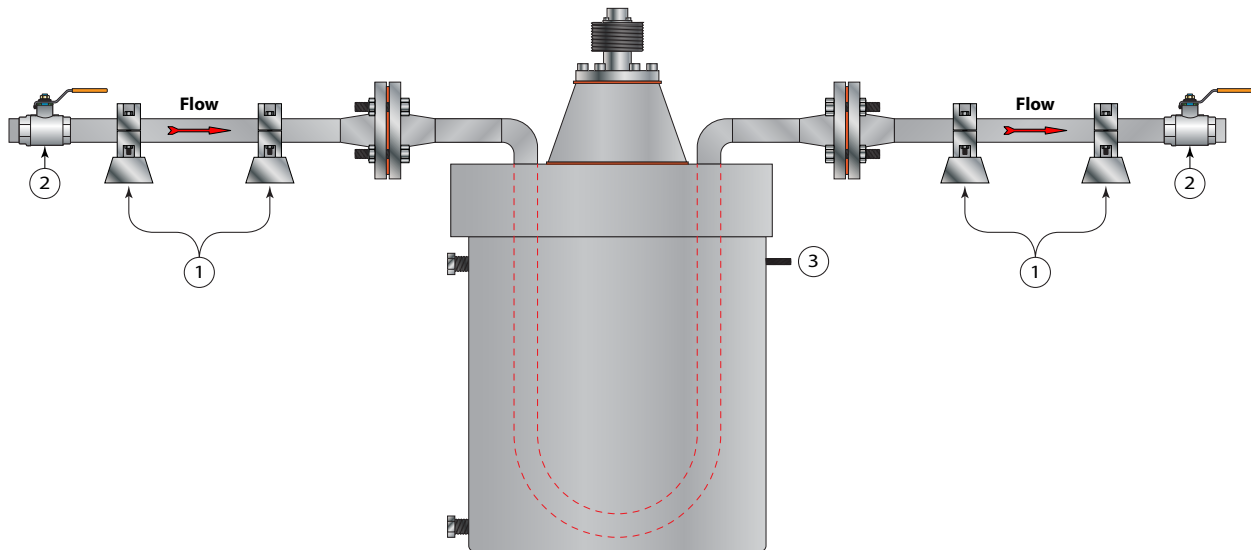
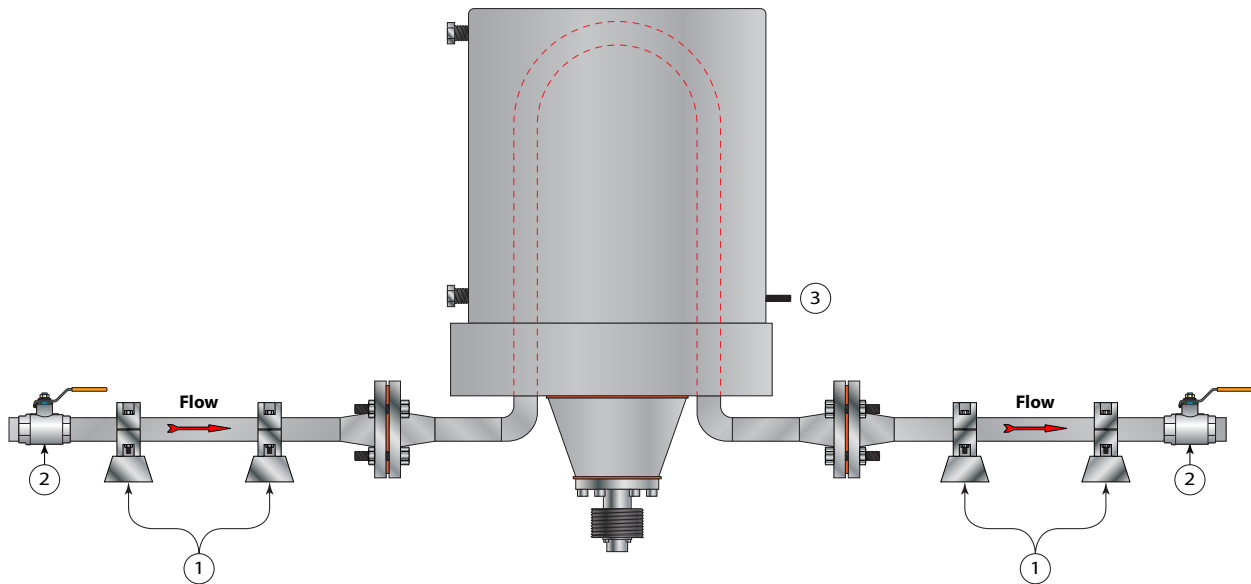
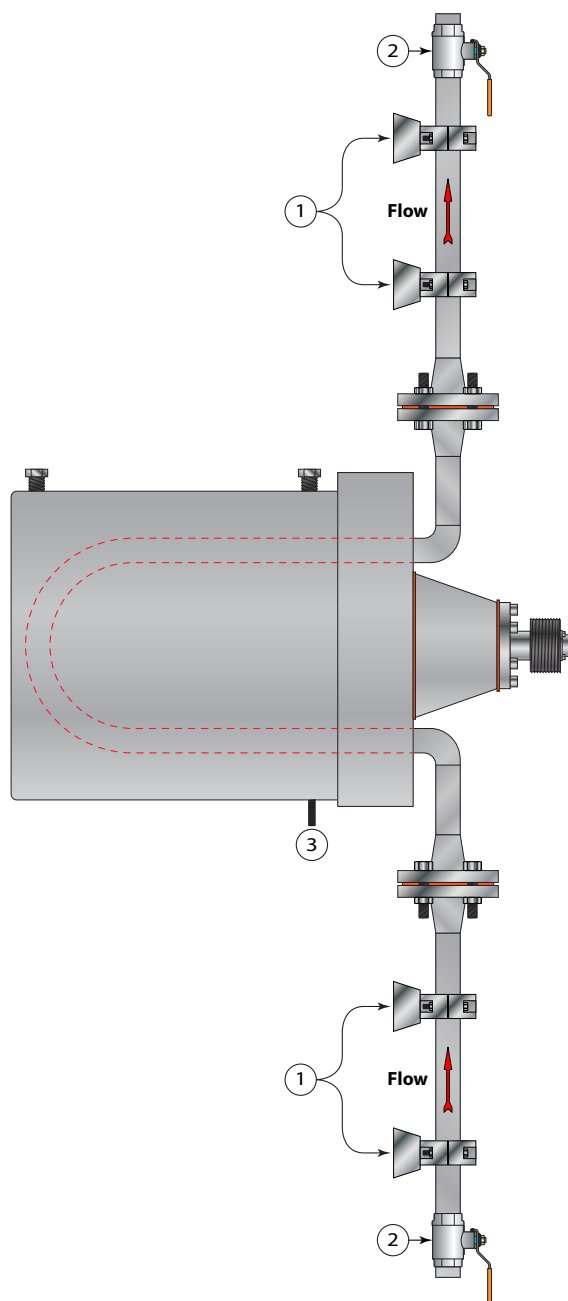

Figure 8: Tubes down (liquids)
Figure 9: Tubes up (gases)
Figure 10: Tubes to the side with flow going up (self-draining)
5. Control valves should be mounted downstream of the flow meter to prevent possible cavitation especially when measuring liquids with low boiling points (see *Figure 8*).
7. Vertical piping installations should have the flow going up through the meter (see *Figure 10*).
13. Ensure the flow sensor is earthed/grounded at the earth connector located on the sensor side. An AWG #10 or larger protective ground must be connected to the side grounding terminal for the system to work correctly (see *Figure 8* on page 12, *Figure 9* on page 12 and *Figure 10* on page 13).
Vibration reducing pipe supports should be used in all applications. The mounting orientation shown in *Figure 8* is recommended for liquid applications.
For gas or slurry applications where condensate may be present, mount the sensor as shown in *Figure 9*.
For self-draining configurations, mount the RCS sensors in vertical pipelines as shown in *Figure 10*.